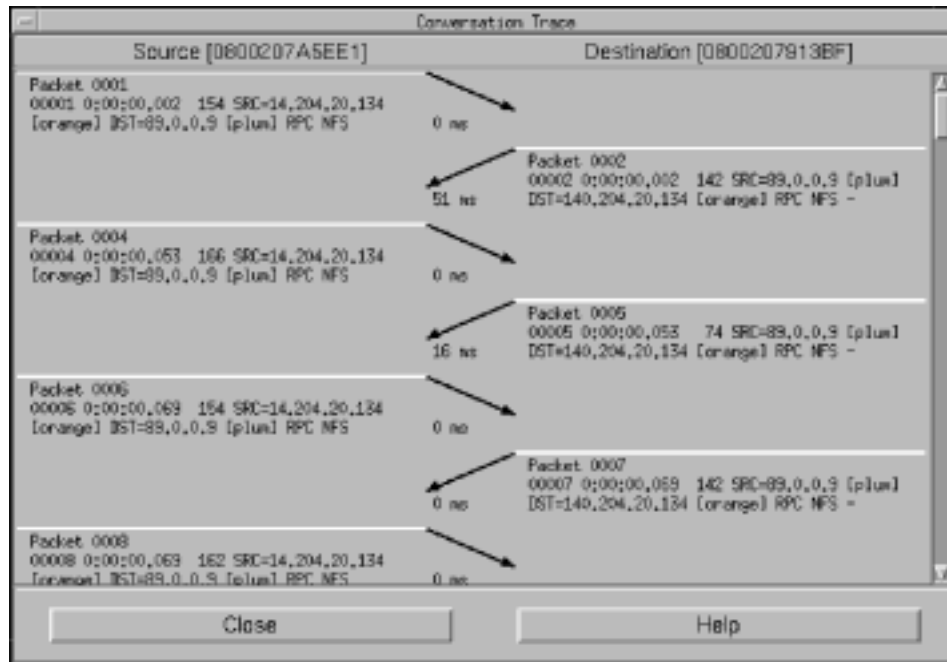

Figure 59. Conversation Trace Dialog Box
3. Nways Manager Remote Monitor then uses the packet selected in the summary view as the key to the conversation you want to watch. The packets involved in that conversation are filtered out and displayed in the Conversation Trace dialog box, shown in Figure 59 on page 118.